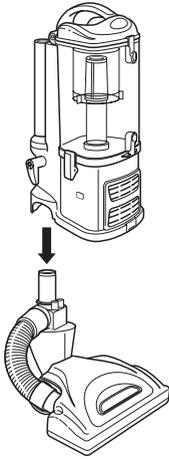

Fig. 7
- 2 Align the detachable canister over the tube on the floor nozzle. Lower the canister onto the floor nozzle until it clicks securely into place. **(Fig. 7)**